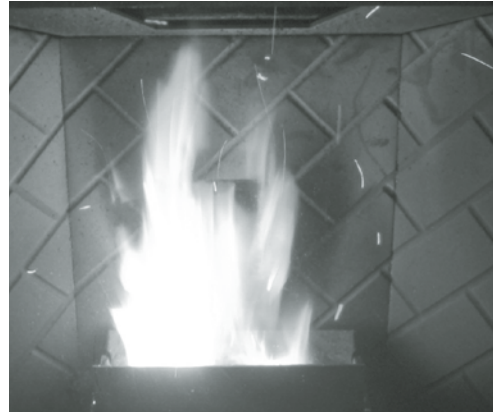

Figure 8: Efficient Flame.
- If the flame is in the middle of these two characteristics with a bright yellow/orange, active flame with no black tips then the air is set for proper operation, refer to Figure 8.